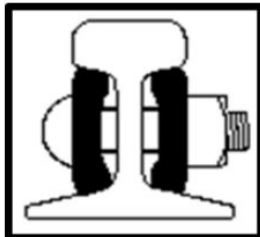

Figure 3
- Proper splice joints are designed to wedge between the angled underside of the railhead and the angled top of the rail flange as shown in figure 3. The splice joint should not bear against the web of the rail and a drilled flat bar is not an acceptable alternative.
Proper splice joints are designed to wedge between the angled underside of the railhead and the angled top of the rail flange as shown in figure 3. The splice joint **should not bear against the web of the rail and a drilled flat bar is not an acceptable alternative.**